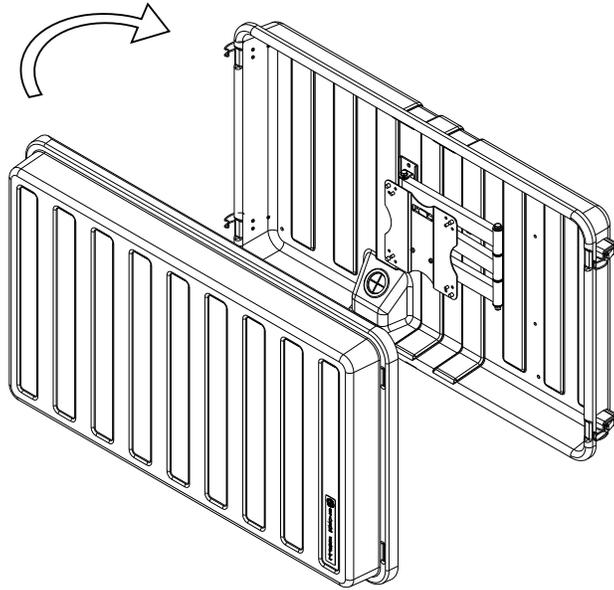

Figure 9
7. Install the Storm Shell Front and check that cover and latches fit correctly. Figure 9.